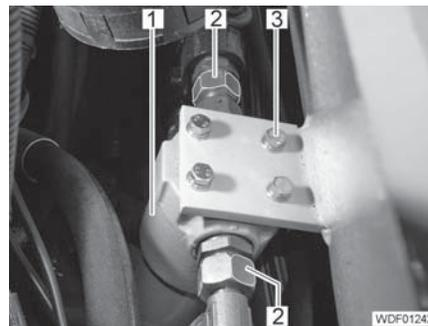

Fig. 226 Pressure filter attachment
- Unscrew and close off the 2 hydraulic lines (Fig. 226,2).
- Unscrew the 4 screws (Fig. 226,3).
- Remove the pressure filter (Fig. 226,1) by pulling it downwards.
- Screw in and tighten the 4 screws (Fig. 226,3).
- Screw the 2 hydraulic lines (Fig. 226,2) onto the connections on the pressure filter and tighten.